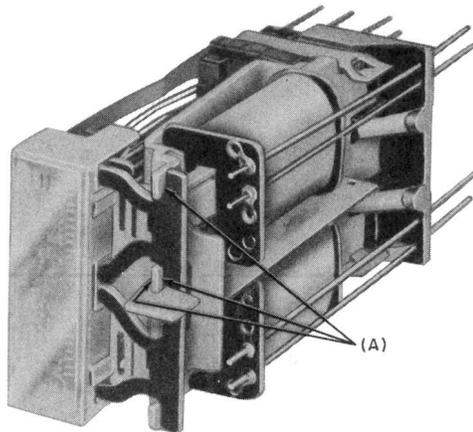

Fig. 1 — AK-Type Relay
1.01 *Balancing Spring Tension:* Fig. 1(A)—Card bears against associated surfaces on armature and armature bears against backstop; relay unoperated.